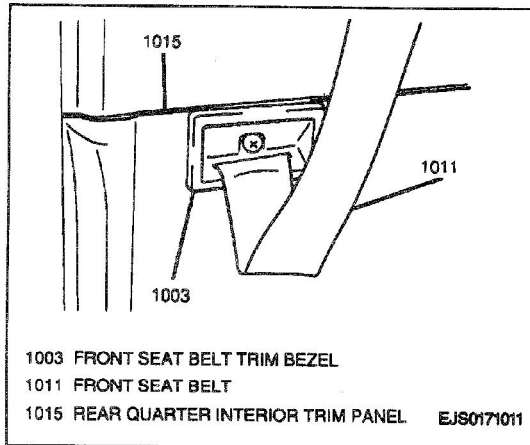

Figure 4—Front Seat Belt Trim Bezel
2. One screw from front seat belt trim bezel (Figure 4).
3. Front seat belt trim bezel to vehicle; secure with one screw (Figure 4).